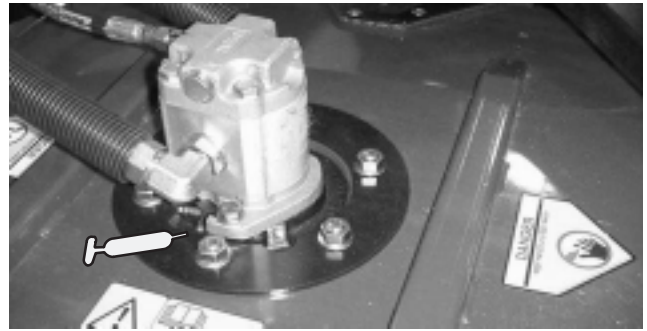

Figure 39
- Cutting unit spindle shaft bearings (1 per cutting unit) (Fig. 39)